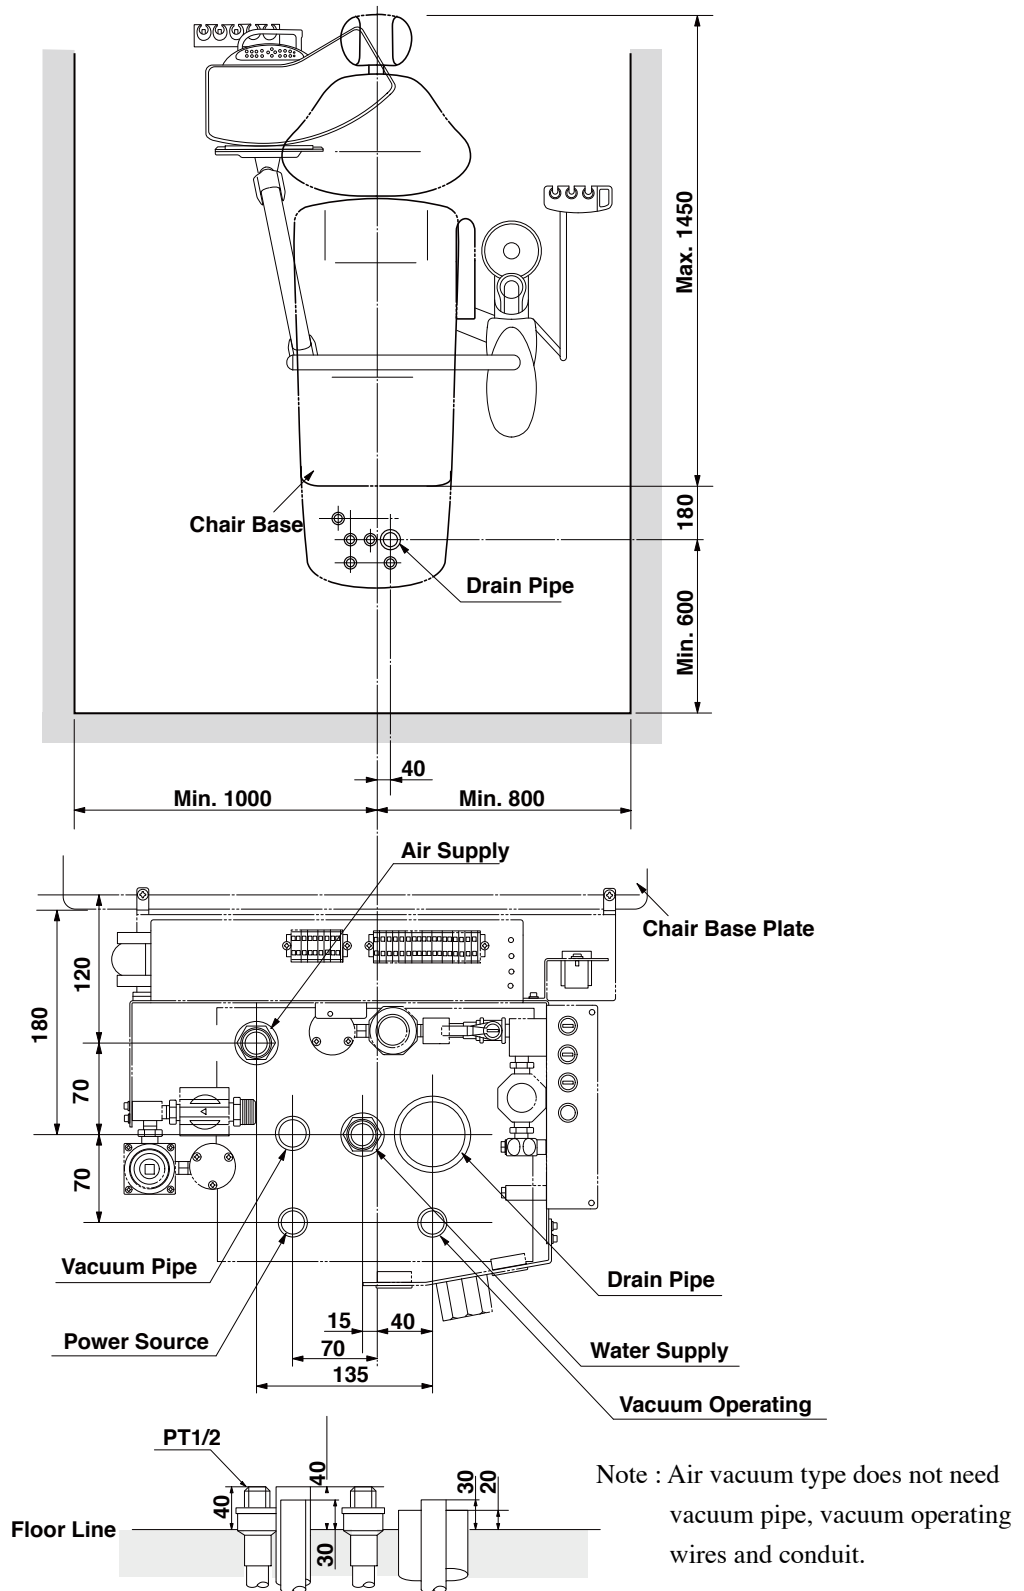

Fig.3-1 Installation Position and Plumbing Layout
- (1) The CLESTA II dental unit comprises of a Chair section, Cuspidor section, Doctor table section and Light section.
- (2) The CLESTA II should be mounted taking the opening end of drain pipe into due consideration. Refer to Page 7, Fig.3-1.
- (3) The area on which the CLESTA II (250 kg) is to be installed must have endurance force of 250kg/m².
- (4) The installation position of the CLESTA II chair is shown in Fig.3-1 as a recommended example.
- (1) All piping and conduit for cables are to be laid under the floor and to come out from the floor in the positions shown Fig 3-1
- (2) The installation position and height from the floor of each pipe and cable conduit are shown in Fig.3-1.
- (3) The recommended sizes, materials and end piece are shown in Table 1.
- (4) Regarding installation of the vacuum pump and its connection to the main suction line, follow the specifications of central vacuum pump system manufacture's recommendation.
- (5) All Piping should be arranged avoiding bends as much as possible.